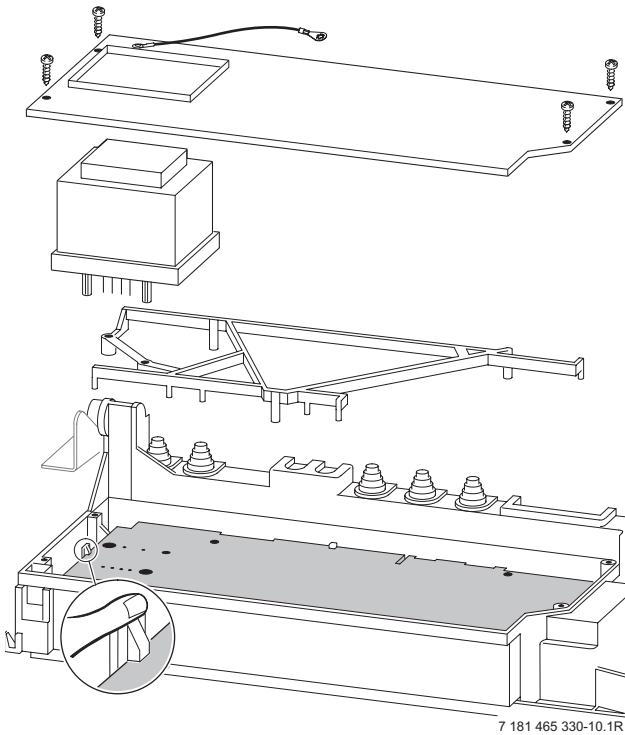

Fig. 60
- ▶ Unscrew four fixing screws from cover plate. Refer to fig. 60.